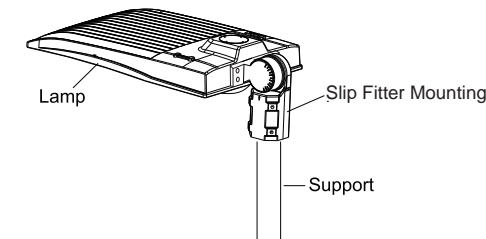

Figure 10
- Step 2: Place the mounting into the pole and lock the four bolts. (Figure 10)